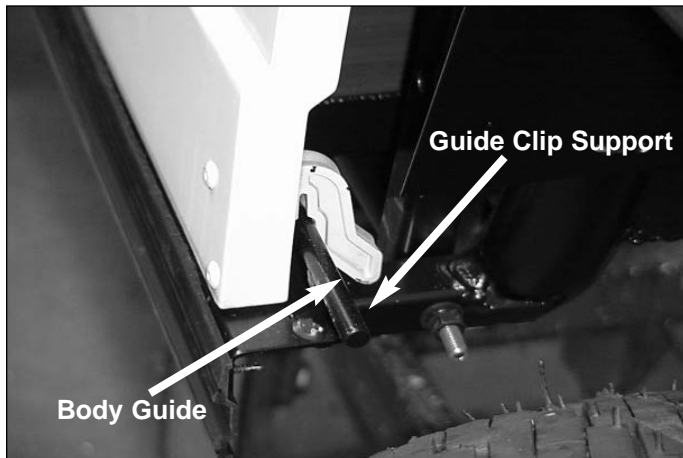

**Figure 22 - Rear Body Hinge**
2. Close body and remove bolts securing rear body to rear hinges See Figure 22.
2. Align rear body to hinges. Install mounting bolts from outside, through doubler plates (Figure 22, #23). Tighten hardware.
3. Remove bolts at rear of body, securing body to chassis. See Figure 22, Rear Body to Chassis Mounting.